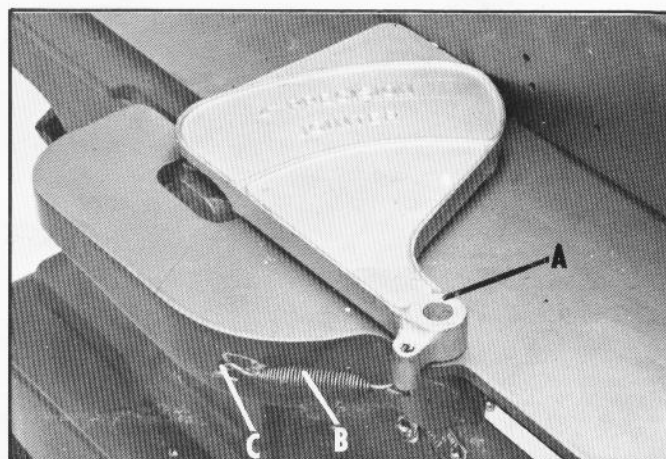

Fig. 14
1. Place post (A) of cutterhead guard in the hole in the infeed table, as shown in Fig. 14, and attach end of spring (B) to the cotter pin (C), as shown.